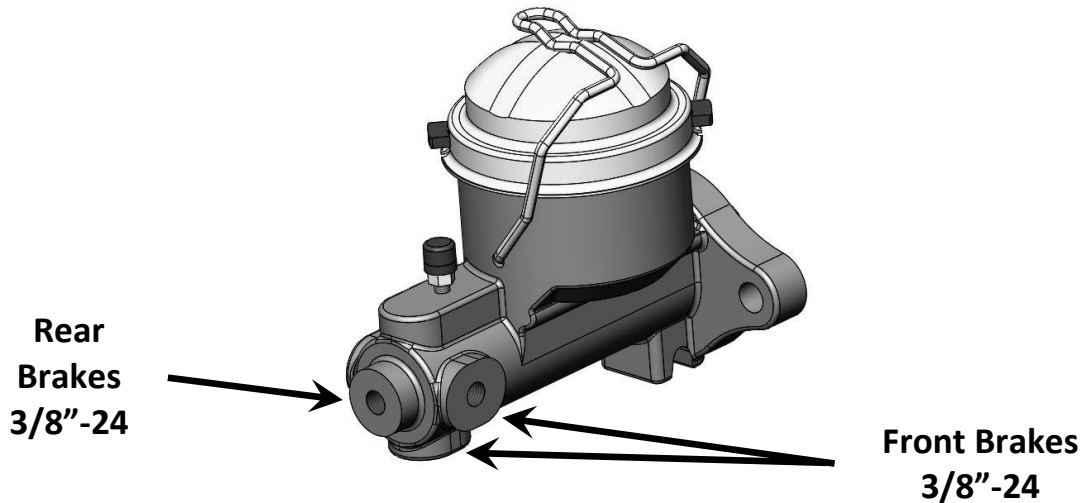

Figure 7 – Brake Line Routing
9. With the entire booster/master combo installed, the master cylinder can be plumbed into the vehicle. Figure 7 below shows proper front and rear hookups for the brake lines.